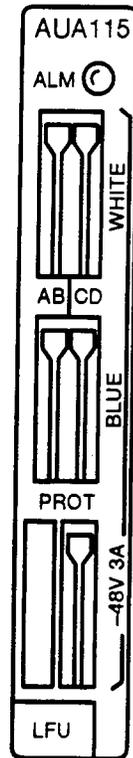

Figure 1 — AUA115 Line Fuse Unit
1. Get one **AUA115** line fuse unit (**LFU**) (Figure 1) and inspect for possible damage.